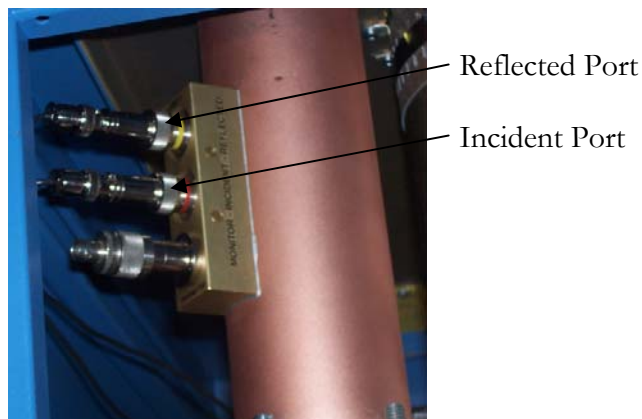

Figure 2-8
- 2.5.1.6 Route these cables to the directional coupler. Connect the cable labeled 'F' to the Incident port and the cable labeled 'R' to the Reflected port (Figure 2-8).